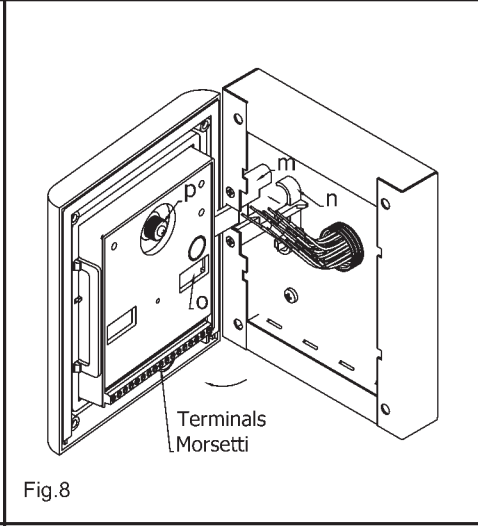

Fig.8
7. As shown in figure 8, open the module support frame **h** as suggested by the pointer, hook the hinge lock **n** to the hinge **m**. When the support frame is hooked to the surface box, do the following operations:
- 7a. make the required settings operating the two jumpers and the 4 way dip-switch accessible from the opening **o** (fig.8)
- 7c. adjust the camera viewing angle by operating the screw **p** (fig.8);